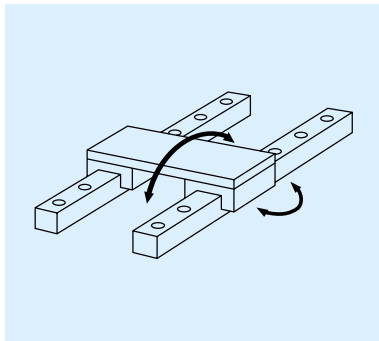

Fig. I-3-5 Pitching and yawing direction
(4) Selection based on the moment load per ball slide
- In cases shown in Fig. I-3-5 to •6, •7, it is necessary to consider the moment load applied to the ball slide.